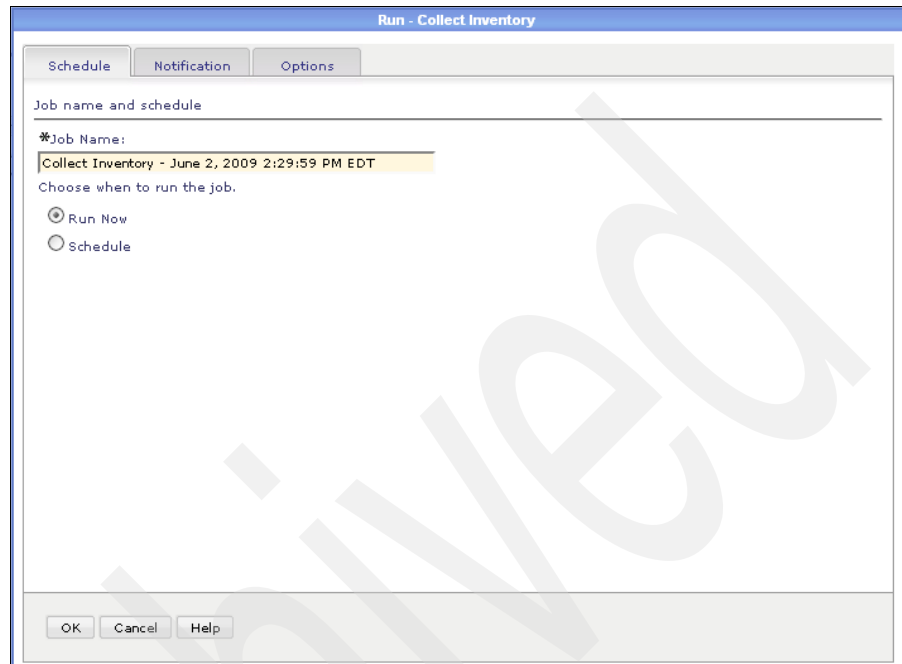

Figure 3-10 Run the job immediately
4. In the Run - Collect Inventory window, shown in Figure 3-10, click **OK** to run the inventory collection immediately.